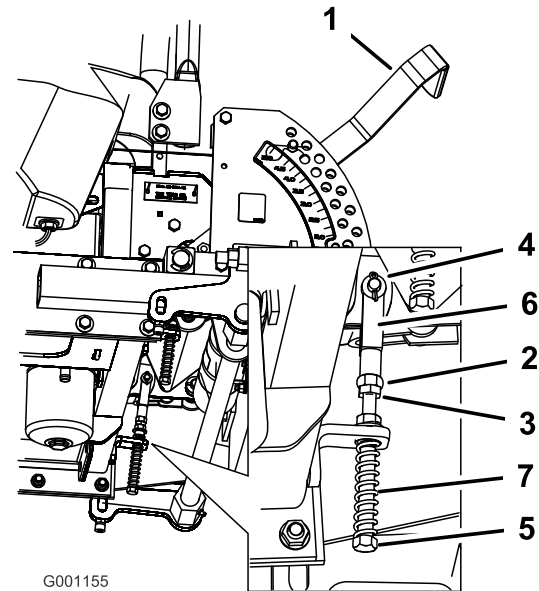

Figure 82
8. If adjustment is needed, loosen the nut and jam nut against the yoke (Figure 82).
9. While applying slight rearward pressure on the motion-control lever, turn the head of the adjustment bolt in the appropriate direction until the control lever is centered in the NEUTRAL-LOCK position (Figure 82).
10. Tighten the nut and jam nut (Figure 82).